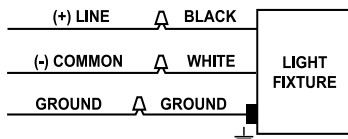

Fig: 4
**RISK OF FIRE.** Universal voltage driver permits operation at 120V thru 277V, 50 or 60 Hz. For Non-Dimming, Electronic Low Voltage (ELV) and Triac Dimming follow the wiring directions in Fig. 4.